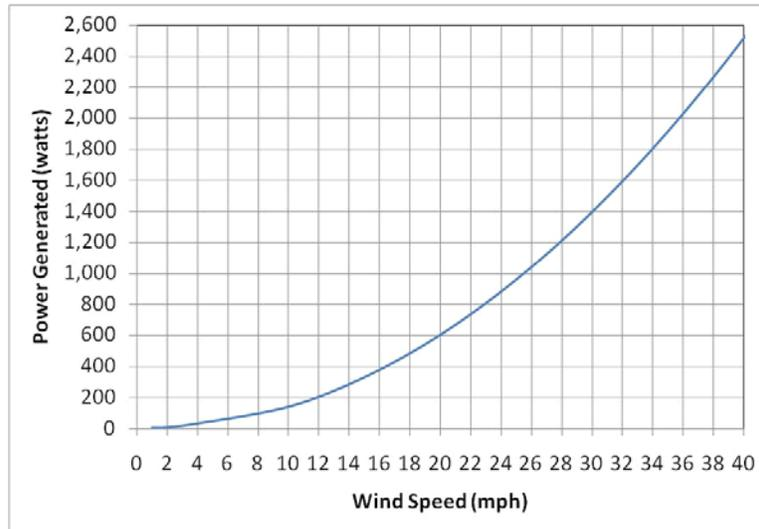

Figure 1. Example of power generated by a six foot wind turbine.
- 1) Literature for wind turbines often state maximum power production, which is typically achieved at air speeds in the neighborhood of 30 mph (Figure 1). Air speeds a few feet from the tunnel fans are around 10 mph.
- 2) Wind turbines tend to produce relatively little power at wind speeds less than 10 mph. Most produce no power at all until the wind speed reaches a speed of between five and eight mph (Figure 1).